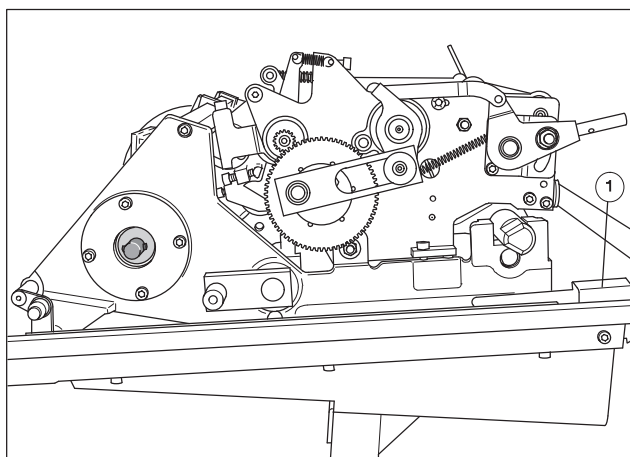

Fig. 58 Numbering slide-in unit ratchet pawl
3. Press the ratchet pawl at the slide-in carriage (Fig. 58/1).